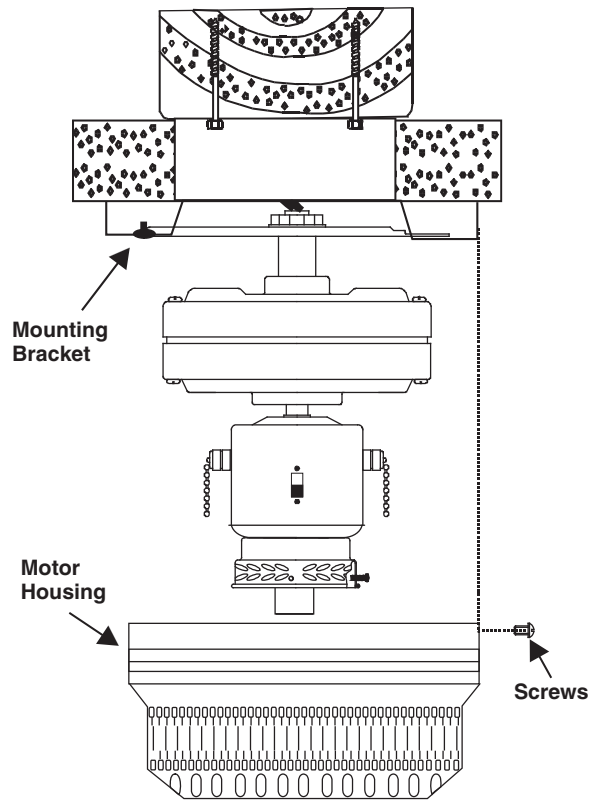

Figure 10
- 2. Carefully lift the motor housing onto the motor, properly align the holes and tighten the motor housing with the 3 screws supplied. (Fig. 10)